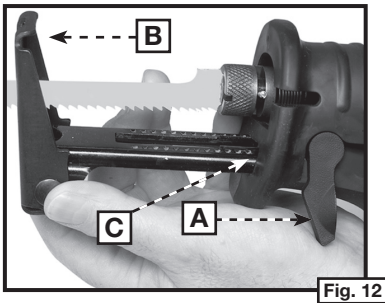
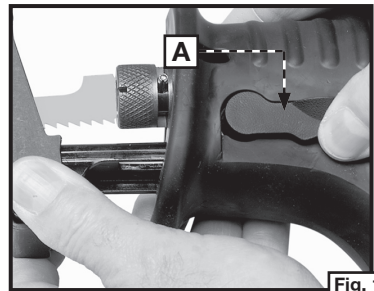

Fig. 12
Fig. 13
To adjust, rotate the lever (A) Fig. 12 releasing the pivoting guide shoe (B). Adjust to the desired position and close the lever (A) Fig. 13. The keyless Quik-Change™ pivoting guide shoe is designed with a raised lip (C) Fig. 12 at the end that prevents the guide shoe from locking in position if it is extended out too far. After adjusting, make sure the locking lever is completely closed in the locked position (A) Fig. 12.